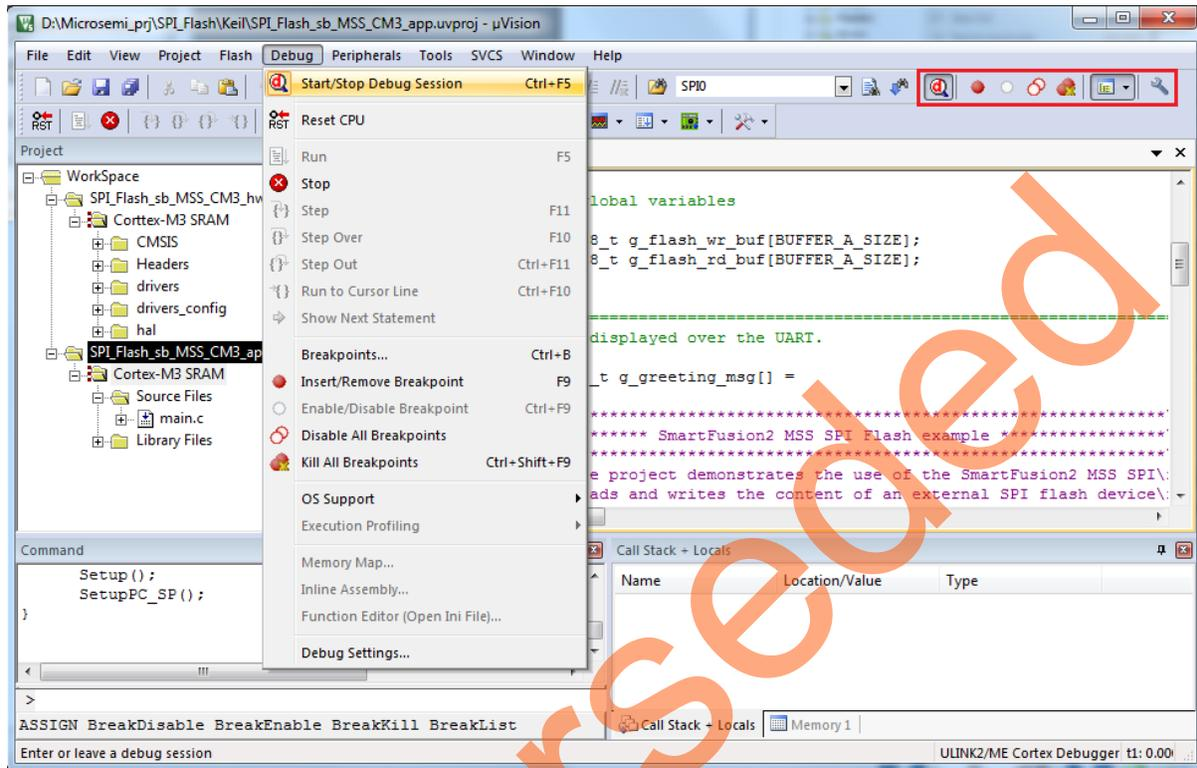

Figure 44 • Keil uVision Workbench - Stop Debug Option
- When debug process is finished, terminate execution of the code by choosing **Debug > Start/Stop Debug Session** as shown in Figure 44.